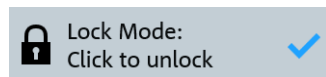

Figure 6-24: Module Operation dialog of a switch unit and of one module in lock mode
- The lock mode indicator icon is highlighted (see red circles in Figure 6-24)
- You cannot change the state of relays and output channels. If you try to switch one of them, a red rectangle (as in Figure 6-24) reminds you of the locked state.